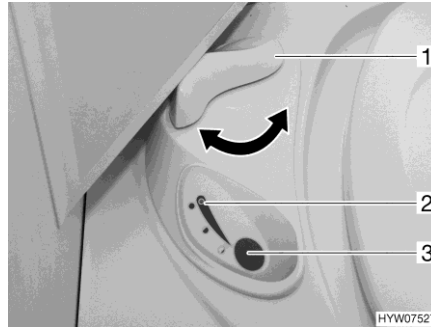

Fig. 172 Thetford toilet operating unit
- Before flushing open the sliding trap of the Thetford toilet. To do this, turn the slide lever (Fig. 172,1) in an anticlockwise direction.
- For flushing, press the blue flush button (Fig. 172,3).
- After flushing close the sliding trap. To do this turn the slide lever (Fig. 172,1) in a clockwise direction.
The indicator lamp (Fig. 172,2) lights up whenever the Thetford cassette has to be emptied.